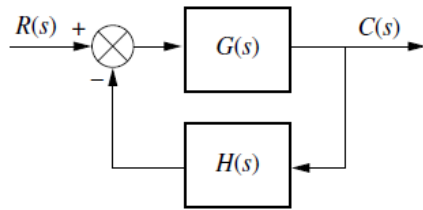

Figure 1: Negative feedback system
- 1) Find the equivalent negative feedback system shown in the figure 1